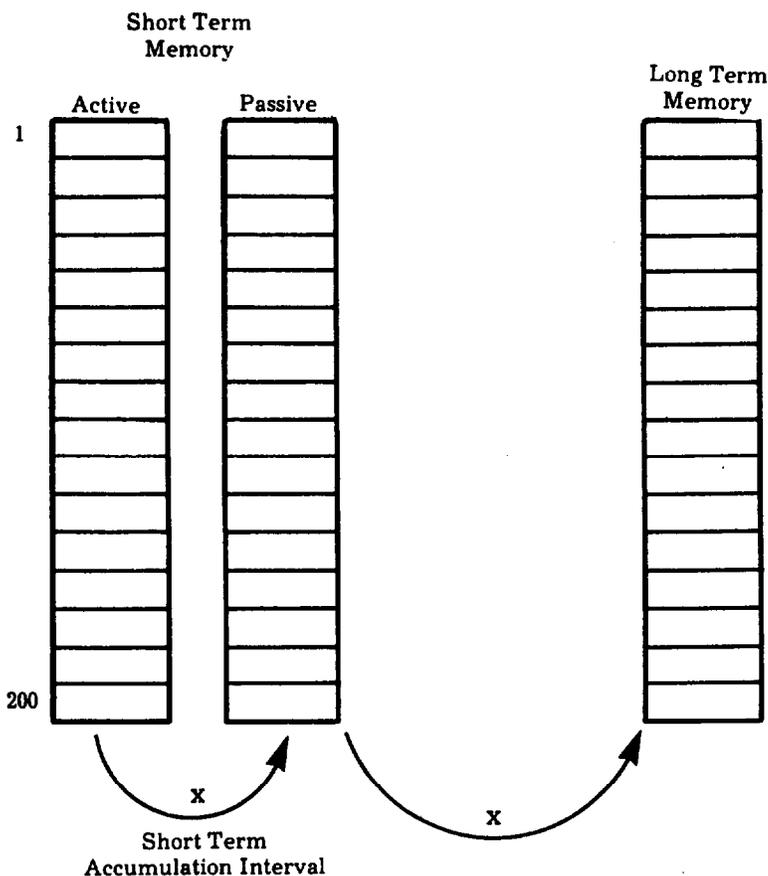

Figure III-1—Memory Organization
4.01 The "Tri" registers consist of memory storage for short term active, short term passive and long term active data. The following paragraphs describe how these registers are used. See Figure III-1.